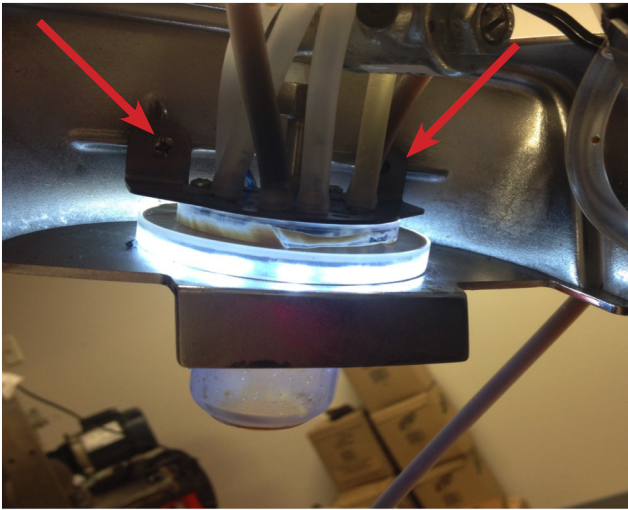

FIGURE 3: REMOVAL OF NOZZLE BRACKET
- B. Remove the two (2) screws holding the nozzle bracket to the housing and separate the nozzle assembly from the housing (See Figure 3).